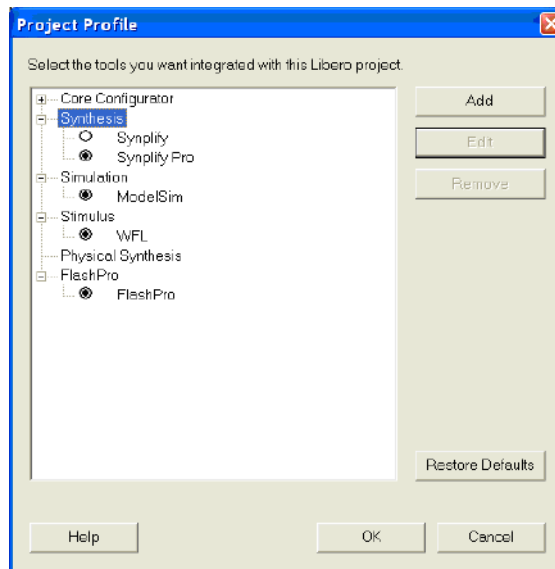

Figure 2-9. Select Integrated Tools Dialog Box
9. Select **Next** and choose the appropriate tools settings, if they are not already selected (Figure 2-9). The tools shown in this dialog box will depend upon your installation. If you want to change the default tool settings, refer to the *Libero IDE User's Guide* or Libero IDE online help.